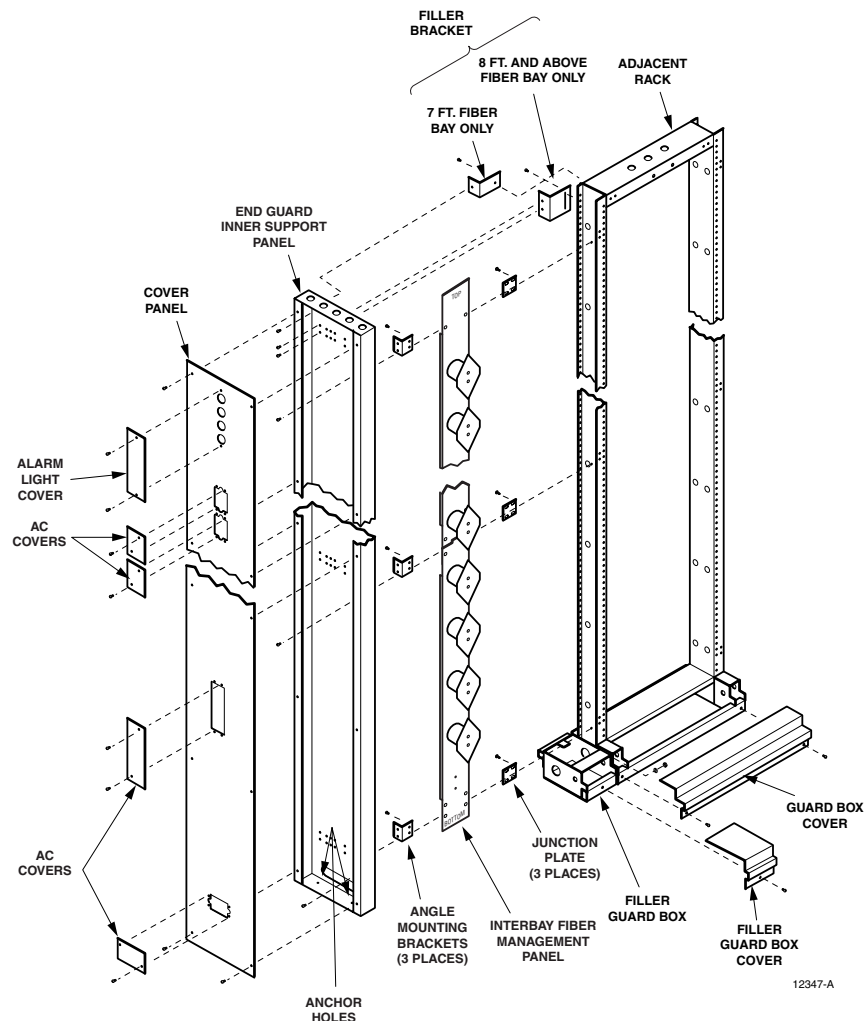

Figure 7. Installing an End Guard Panel Directly to Network Rack
An end guard panel can be used with any ADC unequal flange rack of either type, network or non-network. It can be attached directly to a rack or to a filler panel or interbay fiber management panel. Three heights are available corresponding to the three heights of racks. Use the following procedure to install an end guard panel (Figure 7).
1. If the rack or filler panel to which the end guard panel will be joined does not have angle mounting brackets already installed in the positions shown in Figure 7, fasten the angle mounting brackets to the rear side of the rack or filler panel using the four 12-24 × 0.25 inch Phillips-head mounting screws provided in the kit.
3. For additional temporary support, temporarily install the filler bracket shown in Figure 7. Loosely attach the filler bracket using two 12-24 × 0.50 inch Phillips-head screws.